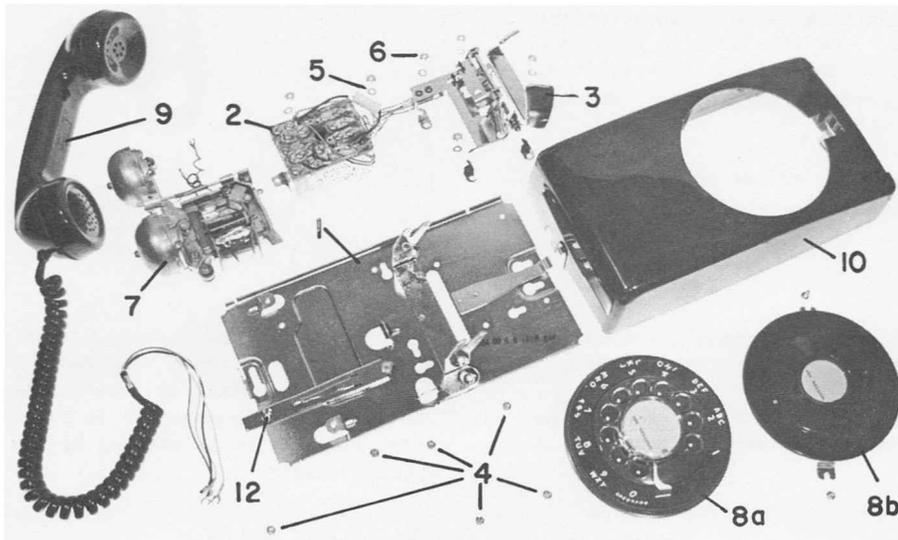

Fig. 3-1 COMPONENT PARTS - EXPLODED VIEW
3.1 The exploded view of Fig. 3-1 shows all the component parts and sub-assemblies of the K-554 basic instrument. Procedures for disassembly and assembly are given below. Additional parts which are included to provide special features should be removed and replaced in any convenient order.